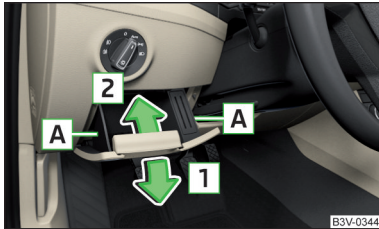

Fig. 255
- Hold the storage compartment at the side in the region **A** and pull to fold down in the direction of the arrow **1** » Fig. 255.